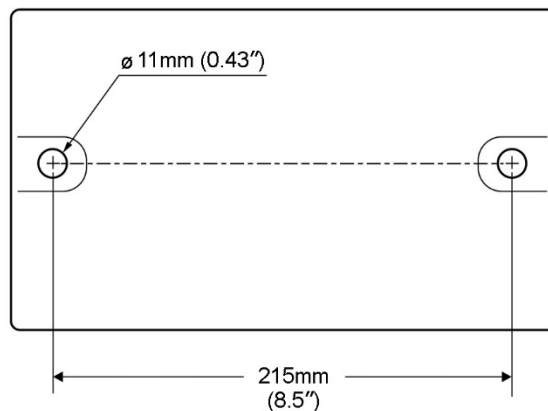

Figure 4-1: **JIGM-8** hole centers
1. Align the mounting holes on the grinder with predrilled holes in a bench or grinder stand. Figure 4-1 shows hole centers for mounting.